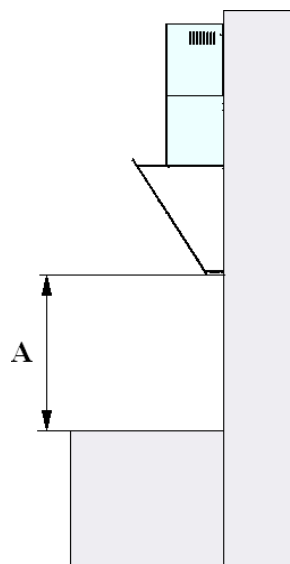

Fig. 3
The distance “A” between the lowest part of the range hood and the surface supporting the pots for preparing dishes should be min. 65 cm for the gas stove (Fig. 3). Observe applicable laws related to air extraction while performing installation works.
- the kitchen hob Fig. 3,